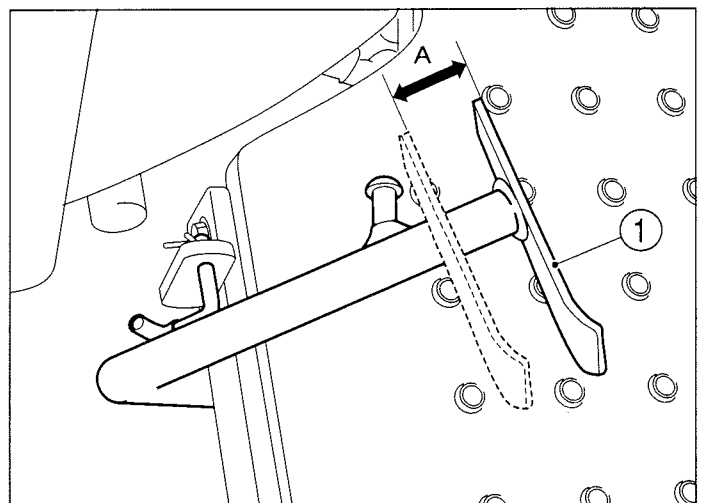

FIG. 98
FIG. 98 & 99: Check clutch pedal free-play regularly and adjust as necessary. Correct clutch pedal free-play A is 20 to 30 mm (7/8") when measured at the end of the pedal (1) as shown.